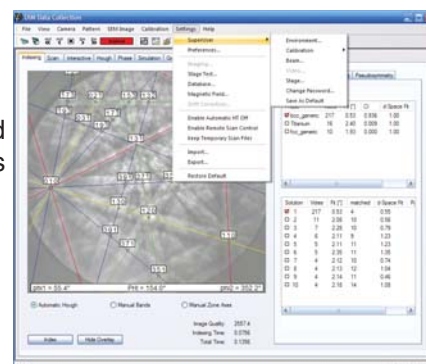

Figure 4. Improved user interface.
- The system level settings are password protected, though the improved user interface allows users access to options needed for data collection without changing critical system settings (see Fig. 4)